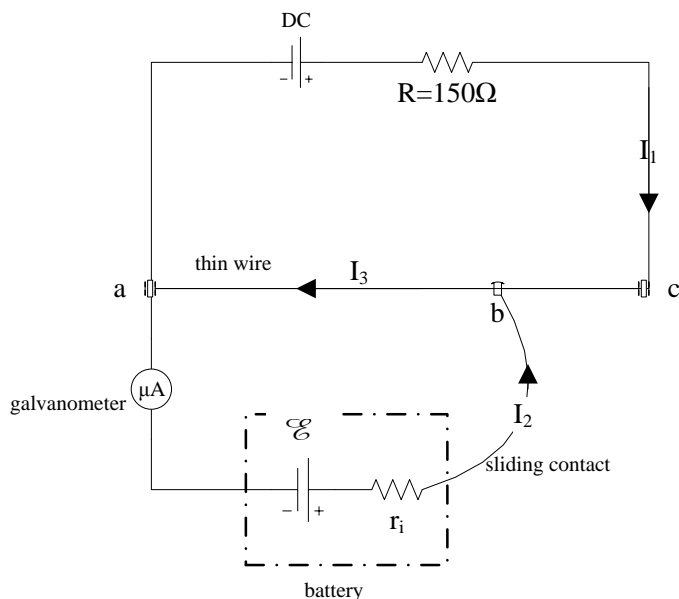

Figure 1.
The potentiometer we will be using is depicted in Fig. 1. The potentiometer is used to measure the cell voltage (also known as the electromotive force or  $\mathcal{E}_{mf}$ ) for several battery combinations. The battery to be measured is placed in the lower "loop" of the circuit (see Fig. 1). The galvanometer is an extremely sensitive ammeter (it can detect currents in the microamp range) and is used to monitor the current through the battery. The thin wire on the meter stick (extending from a to c in Fig. 1) acts as a resistor. The position of the sliding contact (i.e., an alligator clip at the end of a wire) on the thin wire (point b) can be varied. The resistance of the thin wire between points a and b is proportional to the length of wire between a and b: the latter can be read directly off the attached meter stick. The resistor  $R$  is used to limit the current into the galvanometer.
We will measure the  $\mathcal{E}_{mf}$  for the following three "unknown" batteries: (1) one flashlight battery; (2) two flashlight batteries in series (voltages adding); (3) one standard cell battery. Insert the "unknown" battery into the circuit making sure the polarity is as indicated in Fig. 1. Fix  $V_o$  initially at 20 V and position the sliding contact so as to register a null current  $I_2$  as described above. When the null condition is achieved measure  $L_b$  and  $V_{ac}$  (Note that the value of  $V_{ac}$  at the null condition is independent of  $\mathcal{E}$  and reflects only the choice of  $V_o$  (and the fixed values of  $r_c$  and  $R$ ); Next use Eq. (5) to find  $\mathcal{E}$ . Find the percent discrepancy between the measured and printed values of  $\mathcal{E}$  for each battery.